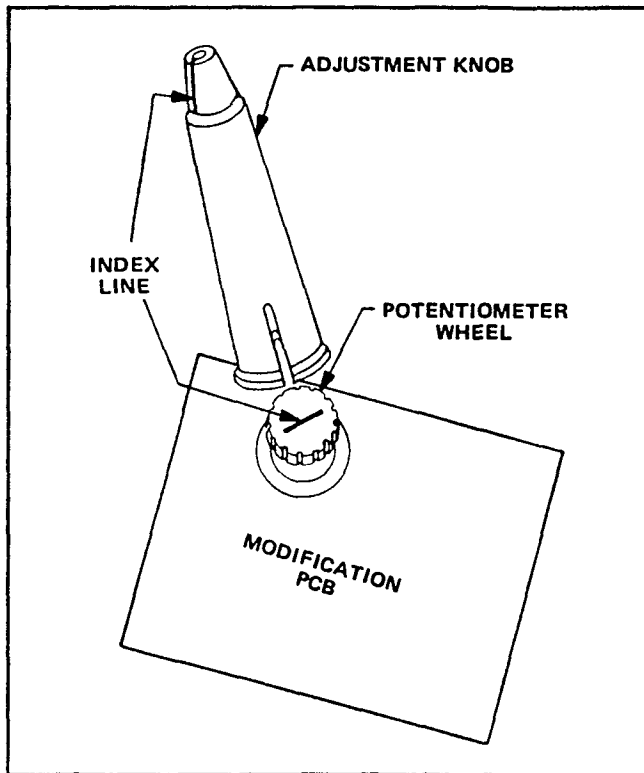

Figure 6. Adjustment Knob Installation
2. Align the index line on the adjustment knob with the index line on the potentiometer wheel so that the adjustment knob index points down and left (approximately 7 o'clock position). See Figure 6.